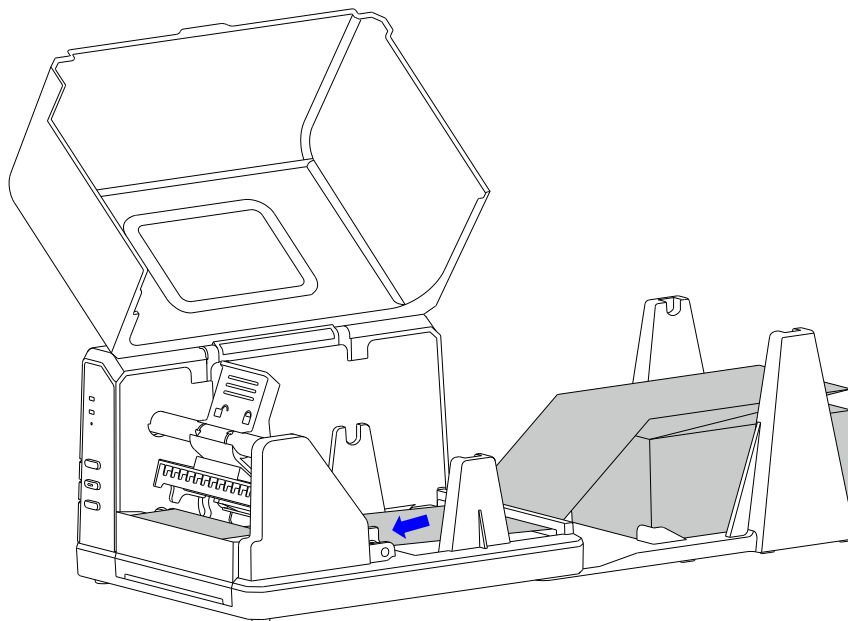

Figure 2-16 Thread the Media through Media Slot
4. Slide the Media Guides to the edge of the media, making sure that the media remains flat and is placed in the middle of the Tear-off Bar. This can be checked with the ruler on the Tear-off Bar. See Figure 2-16.